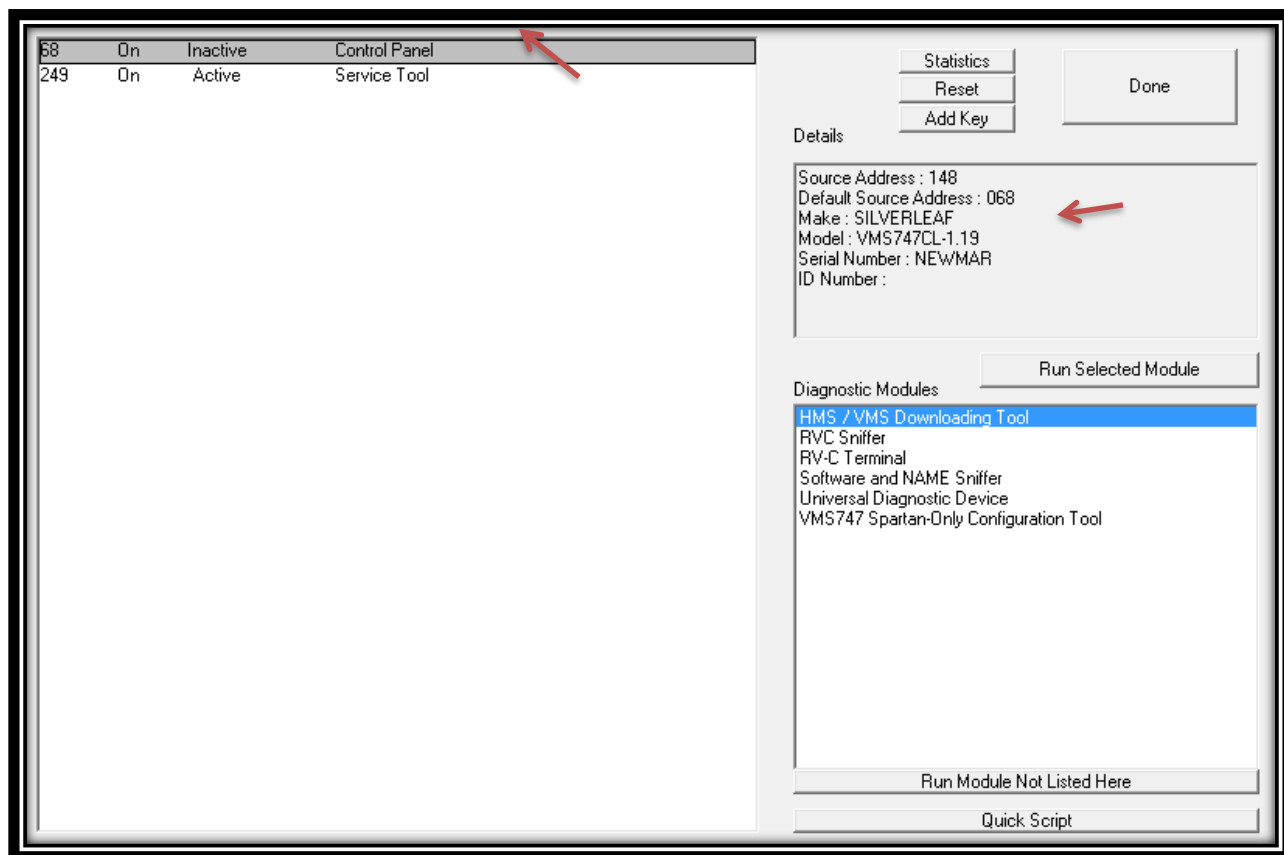

FIG. 6-1
3. Select item in left window that says, 'Control Panel'. If multiple items say control panel, find one that in details side window states model is a "VMS747CL-1.XX". The xx will be whatever version number is loaded on that dash. Refer to FIG. 6-1.